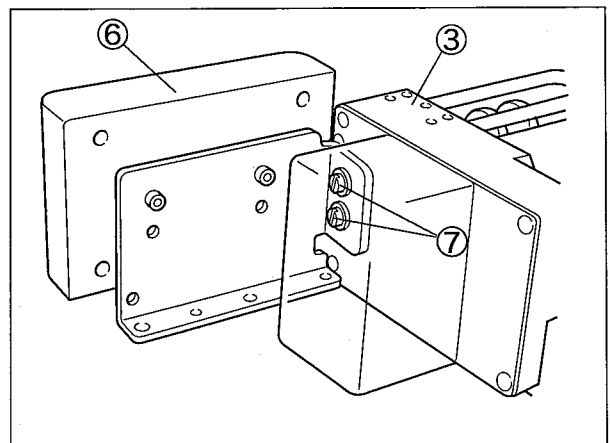

Fig. 2-11
2. Install the operating control box⑥ to the tape feeder③ with the screws⑦. (Fig. 2-11)